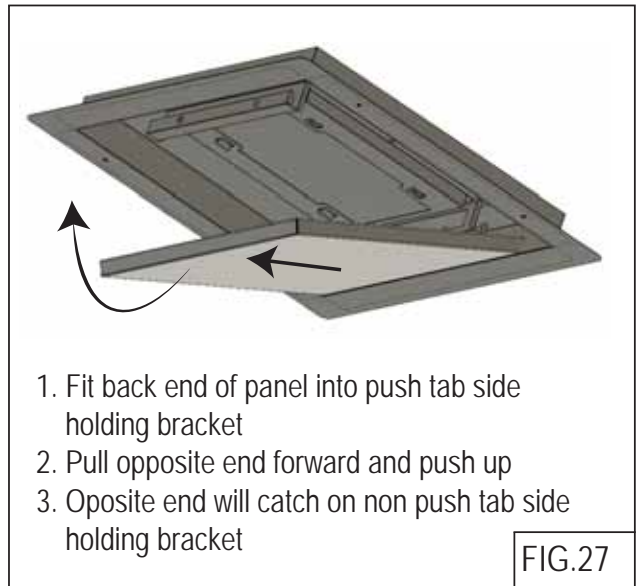

FIG.27
3. Install air diverter panel. FIG. 27